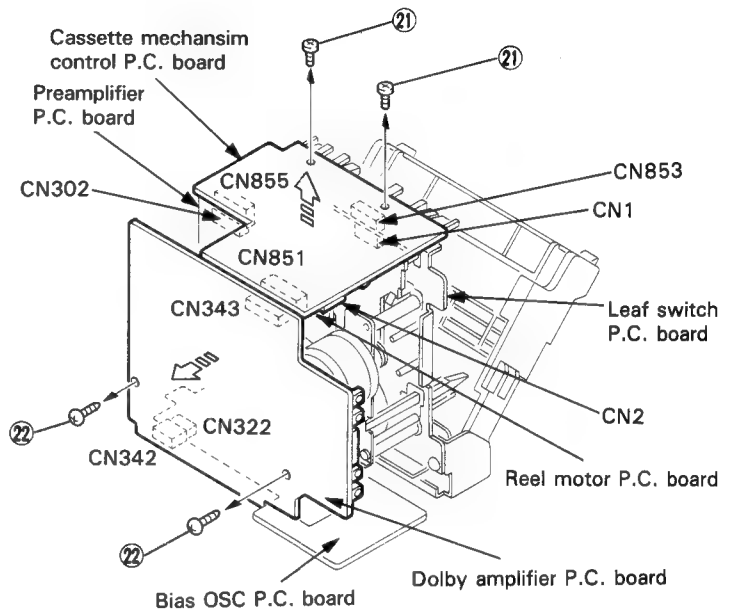

Fig. 7-19
■ **Method of removing the cassette mechanism control P.C. board and Dolby amplifier P.C. board (Refer to Fig. 7-19)**